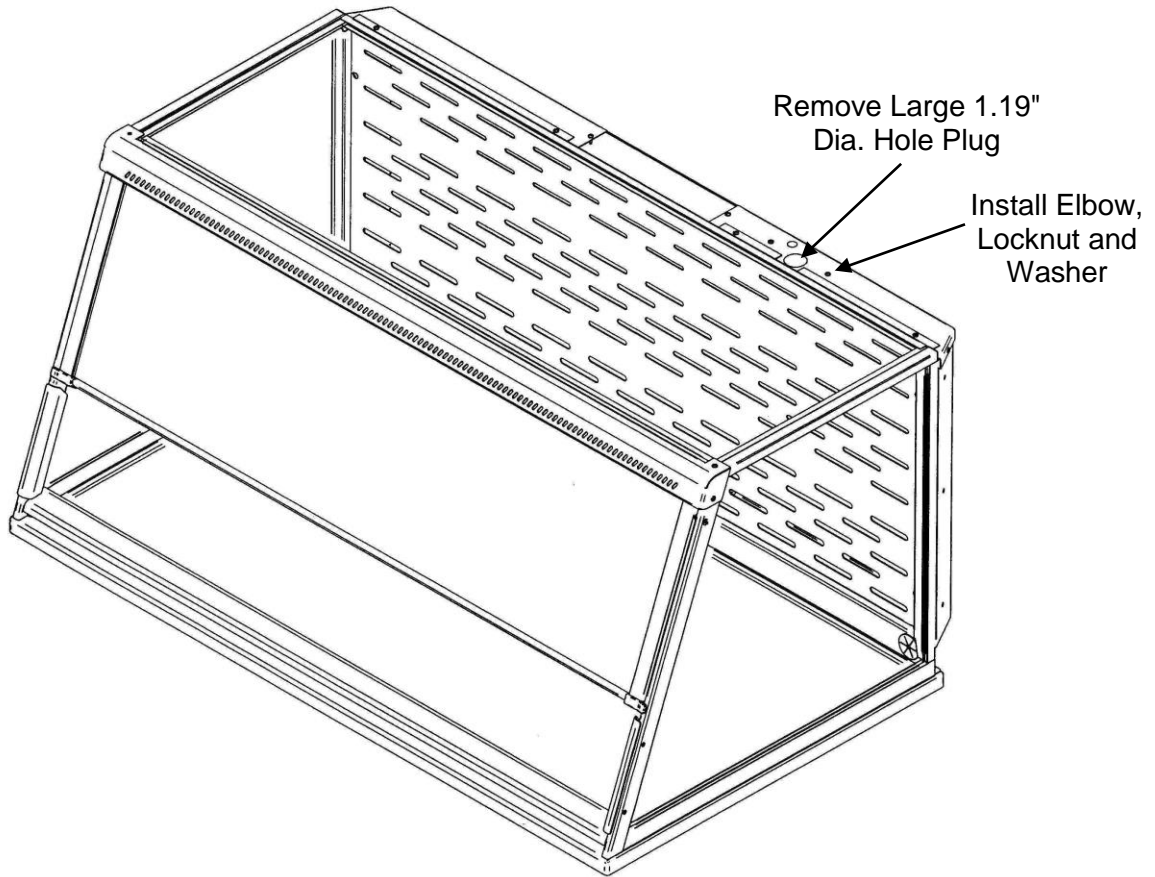
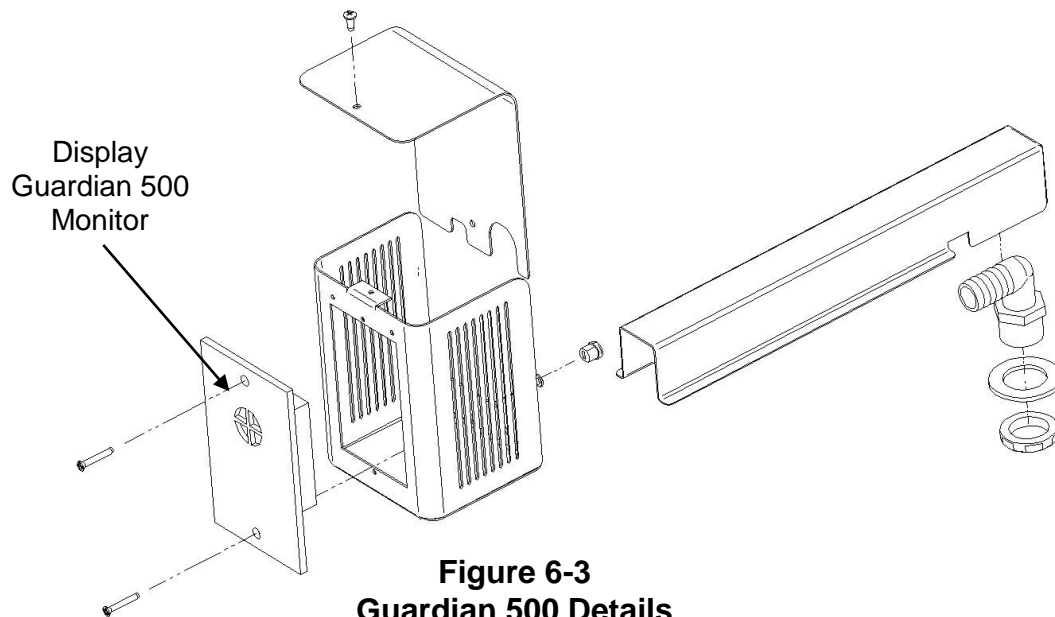

Figure 6-2
Figure 6-3
2. First remove the large 1.19" dia. gray hole plug. See Figure 2. See Figure 3 only to reference internal assembly of the airflow monitor. Locate the elbow, locknut, and washer and install it in the 1.19" dia. hole per Figure 6-2 and Figure 6-3. The enclosure baffle pivots down to install the elbow, washer and locknut.
5. Locate the metal hose cover and install with double stick tape per Figure 6-3.